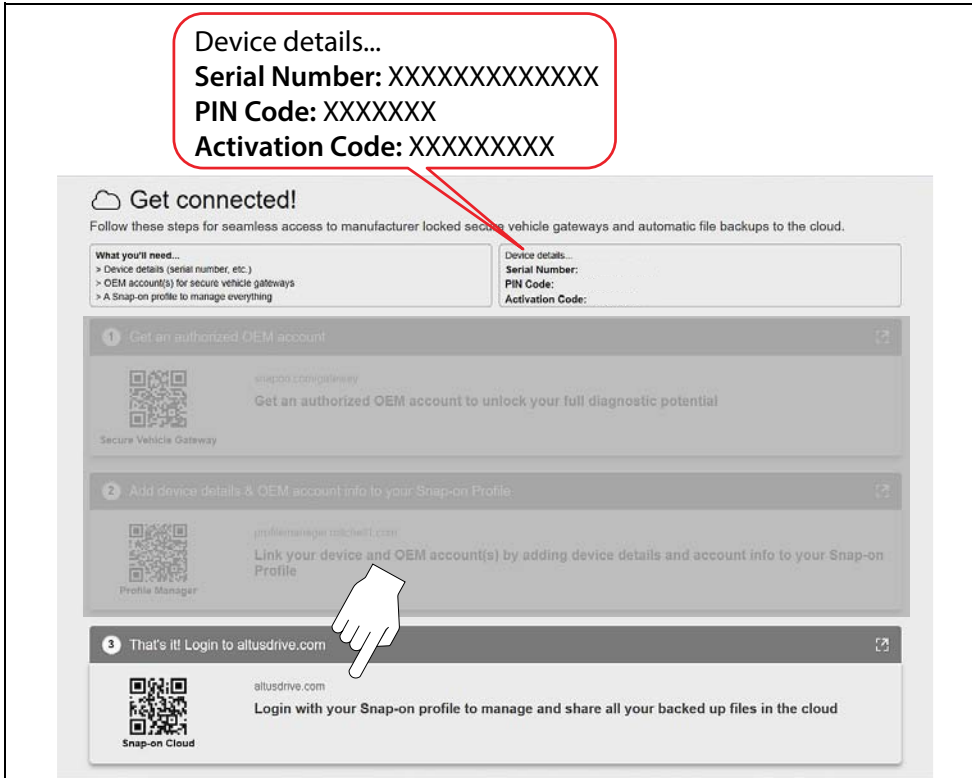

Figure 15-1
2. From the Home screen, select **System Settings > Get Connected**, and write down the Serial Number, PIN and Code that are displayed (Figure 15-1).
The PIN and Code numbers will change each time you view the Get Connected screen (Figure 15-1). This is normal, any displayed set of PIN and Code numbers may be used to register.
3. Select the weblink (Figure 15-1) to open the Login page.